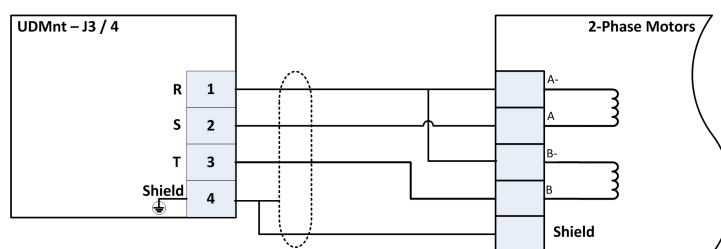

Figure 4-7. Two-Phase Motors (AC synchronous, Step Motor)
- > Two-phase (AC synchronous, step motor), see Figure 4-7.